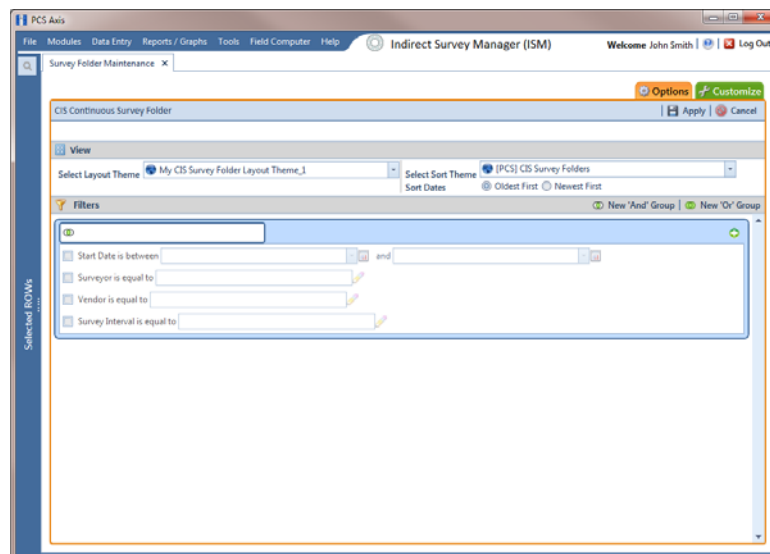

Figure 6-13. Options
- a Click the **Options** tab  to open the options page (Figure 6-13).